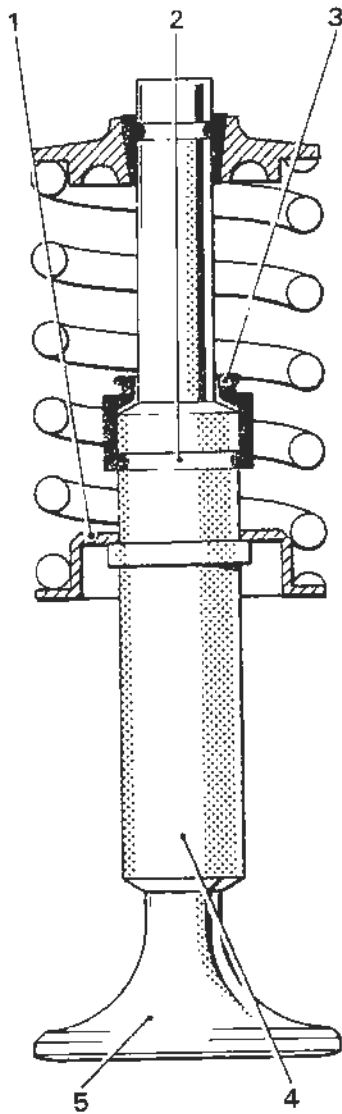

Fig 1.
The new lip seal is located positively into an annular groove, in the outside diameter of the valve guide (see fig.1).
1. Modify the valve spring compressor tool RH7094 as shown in fig 1.